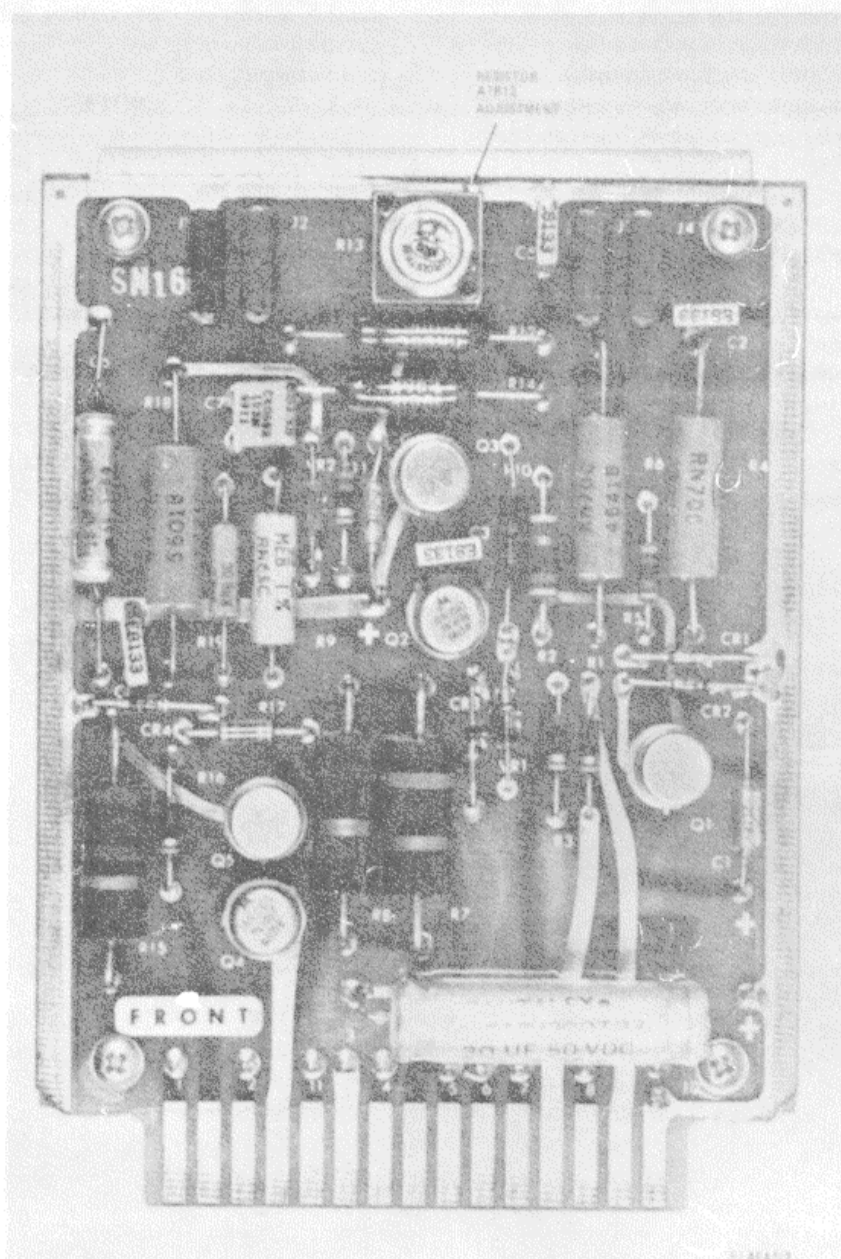

Figure 5. Low voltage regulator 1A1A4.
- (1) Set the POWER switch on the MX-8639A/APS-94D to OFF and disengage all circuit breakers on the upper MX-8638A/APS-94D.
- (2) Loosen the two captive screws that secure the access cover over low voltage regulator 1A1A4 in the lower MX-8638A/APS-94D and remove the cover.
- (3) Close all circuit breakers on the upper MX-8638A/APS-94D and set the POWER switch on the MX-8639A/APS-94D to ON.
- (4) Adjust resistor A1R13 (fig. 5) of 1A1A4 for a voltage indication of -28.0 ± 0.5 vdc on the multimeter.